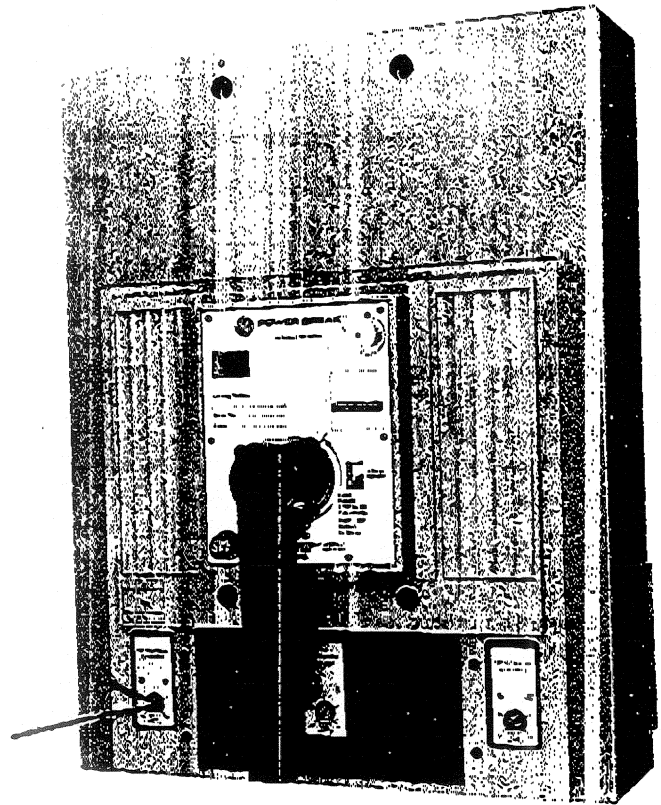

Fig. 6. View showing adjustment of trip setting.
- c. Adjust trip unit settings to desired values as shown in Fig. 6.